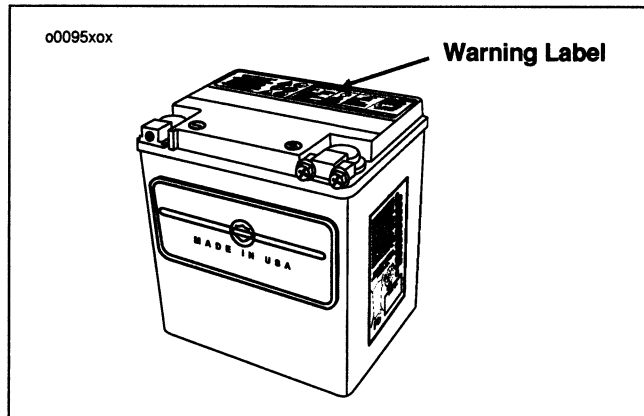

Figure 51. Battery
See Figure 51. All Harley-Davidson batteries are permanently sealed, maintenance-free, lead/calcium and sulfuric acid batteries. The batteries are shipped pre-charged and ready to be put into service. Do not attempt to open these batteries for any reason.
- See Figure 51. A warning label is attached to the top of the battery. Never remove the warning label from the battery.